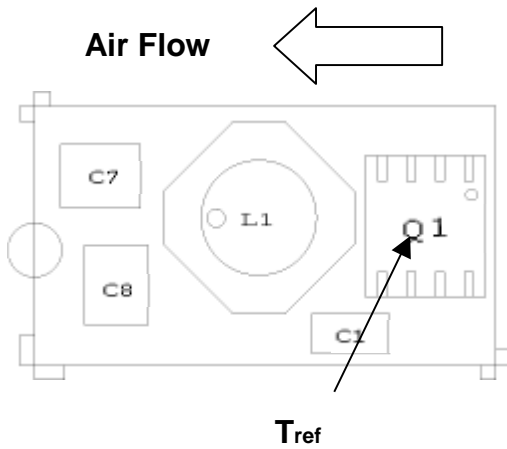
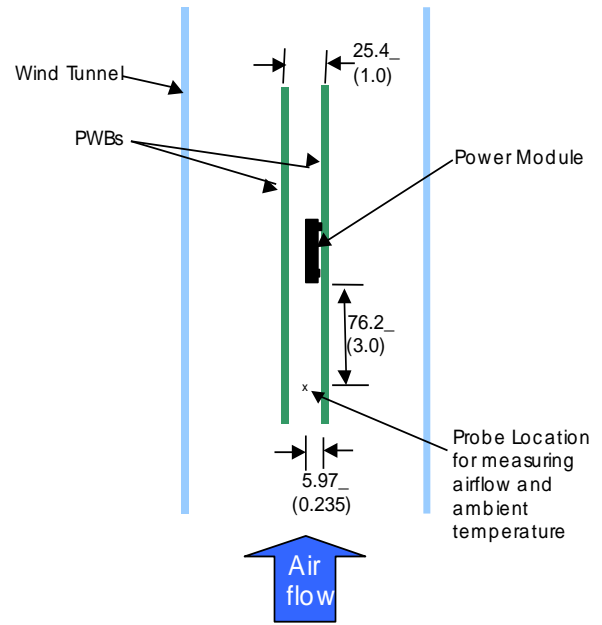

Figure 31. Tref Temperature measurement location.
Figure 32. Thermal Test Set-up.
To provide over temperature protection in a fault condition, the unit relies upon the thermal protection feature of the controller IC. The unit will shutdown if the thermal reference point  $T_{ref2}$ , (see Figure 31) exceeds  $140^{\circ}C$  (typical), but the thermal shutdown is not intended as a guarantee that the unit will survive temperatures beyond its rating. The module will automatically restarts after it cools down.
Considerations include ambient temperature, airflow, module power dissipation, and the need for increased reliability. A reduction in the operating temperature of the module will result in an increase in reliability. The thermal data presented here is based on physical measurements taken in a wind tunnel. The test set-up is shown in Figure 32. Note that the airflow is parallel to the long axis of the module as shown in figure 31. The derating data applies to airflow in either direction of the module's long axis.
The thermal reference point,  $T_{ref}$  used in the specifications is shown in Figure 32. For reliable operation this temperature should not exceed 115°C.